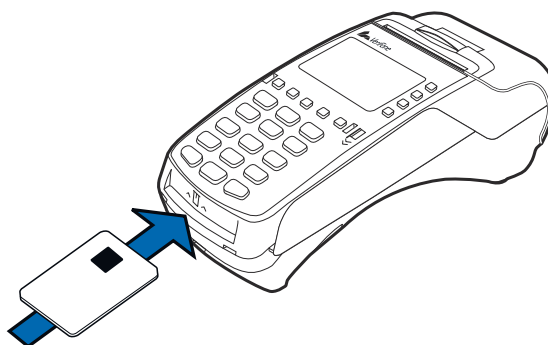

Figure 32 Inserting a Smart Card
- 1 Position a smart card with the contacts facing upward (see Figure 32).